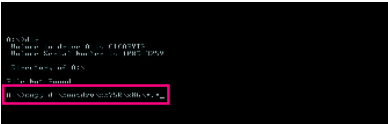

Figure 1
- 3: At the A:\> prompt, type the following command. Press <Enter> after the command (Figure 1): (Note)